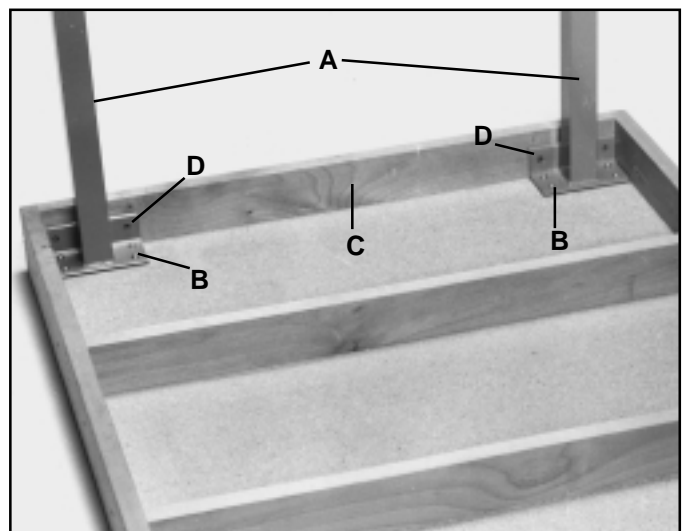

Fig. 16
1. Position the two legs (A) Fig. 16, at the two far corners of the inside of one end of the extension table, as shown, and mark the position of the eight holes (B) to be drilled into the bottom of the table and the four holes (D) to be drilled into the frame of the table. **IMPORTANT:** If your saw and fence system will be used with a mobile base underneath the saw and table legs, the position of the legs may have to be changed to fit into the mobile base. Remove the two legs (A) and using a 1/16" drill bit, drill the eight holes 3/8" deep. Using a 1/4" drill bit, drill four through holes through the end piece (C) Fig. 16, of the table.